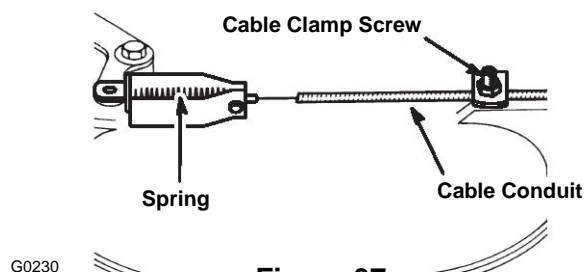

Figure 37
3. Loosen the cable clamp screw until the cable conduit slides (Fig. 37)